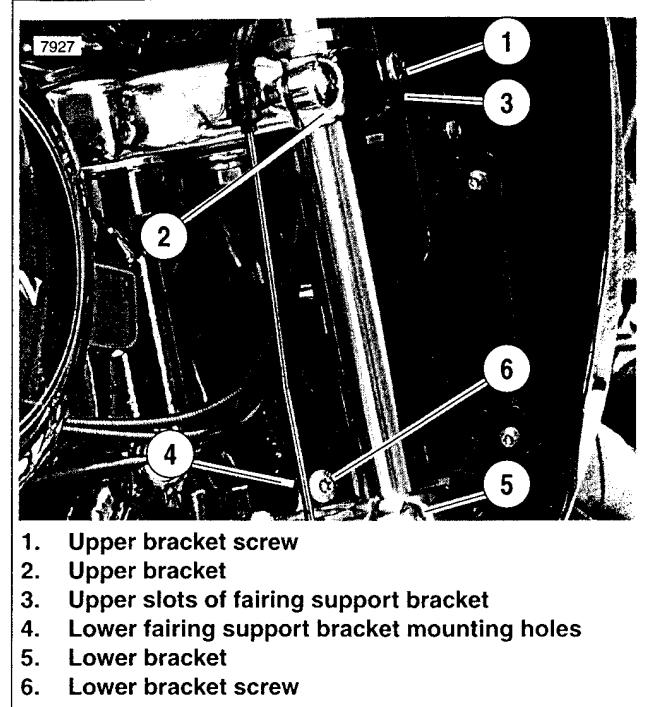

Figure 2-133. Fairing Installation/Assembly
1. See Figure 2-133. Align upper slots of fairing support brackets (3) with screws (1) on upper bracket (2).
- a. Align lower fairing support bracket (4) mounting holes with lower bracket (5) mounting holes.
- b. Tighten screws (6) to 12-15 **in-lbs** (1.35-1.70 Nm)